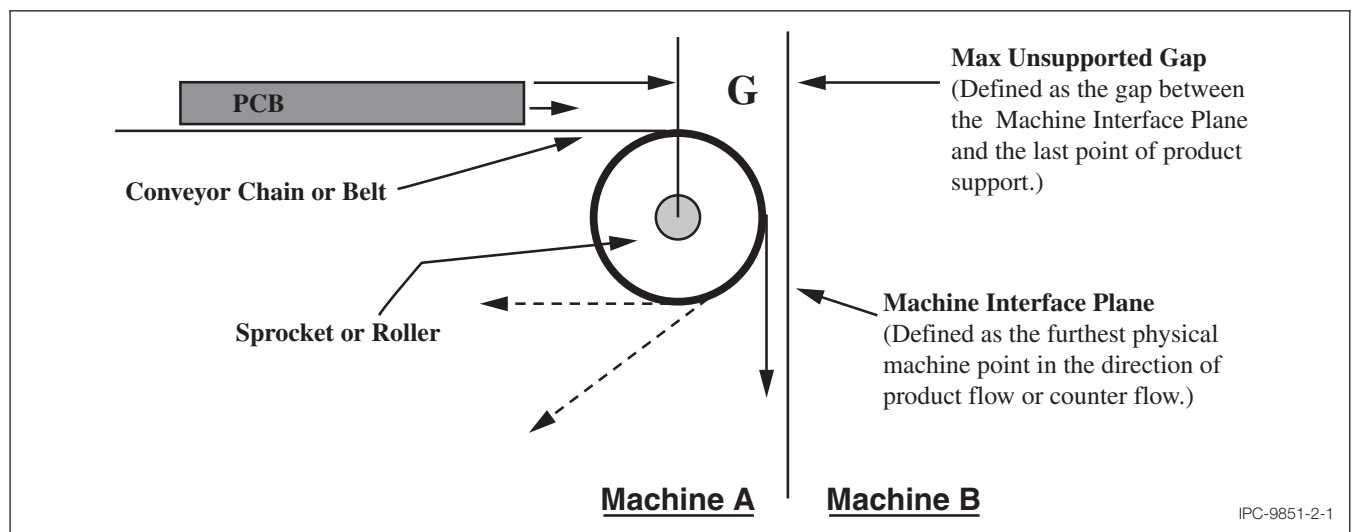

Figure 2-1 Maximum Gap
2.6 Maximum Gap The maximum unsupported gap as defined by G in Figure 2-1 is 19 mm [0.748 in.].
3.5 Maximum Gap The maximum unsupported gap as defined by G in Figure 2-1 is 19 mm [0.748 in].